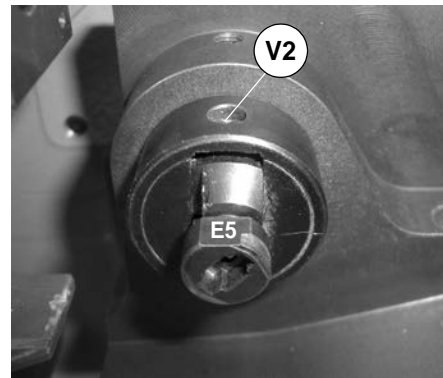

Fig. 59
- 4) Fit the adapter E5 into the K1 tailstock so that the initials E5 are facing upwards and the adapter is butting well up against the K1 tailstock grips (fig. 59).